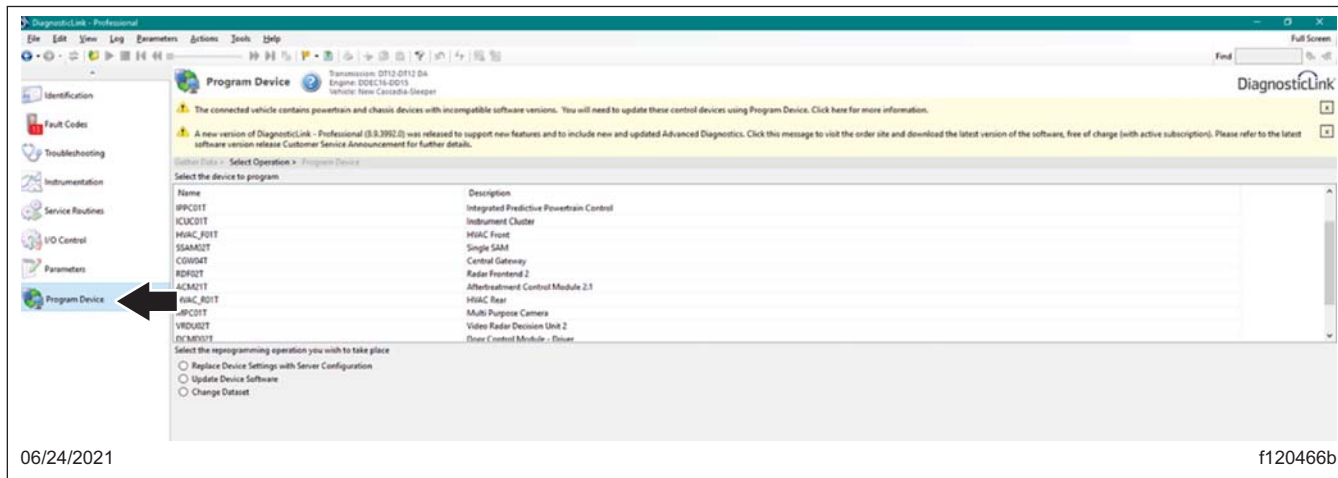

Fig. 7, Updating DiagnosticLink®
4. Ensure that DiagnosticLink® is updated to the latest version (8.14 at time of publication). To update DiagnosticLink®, select 'Update' from the drop-down menu under 'Tools.' Select 'Program Device.' See Fig. 7.